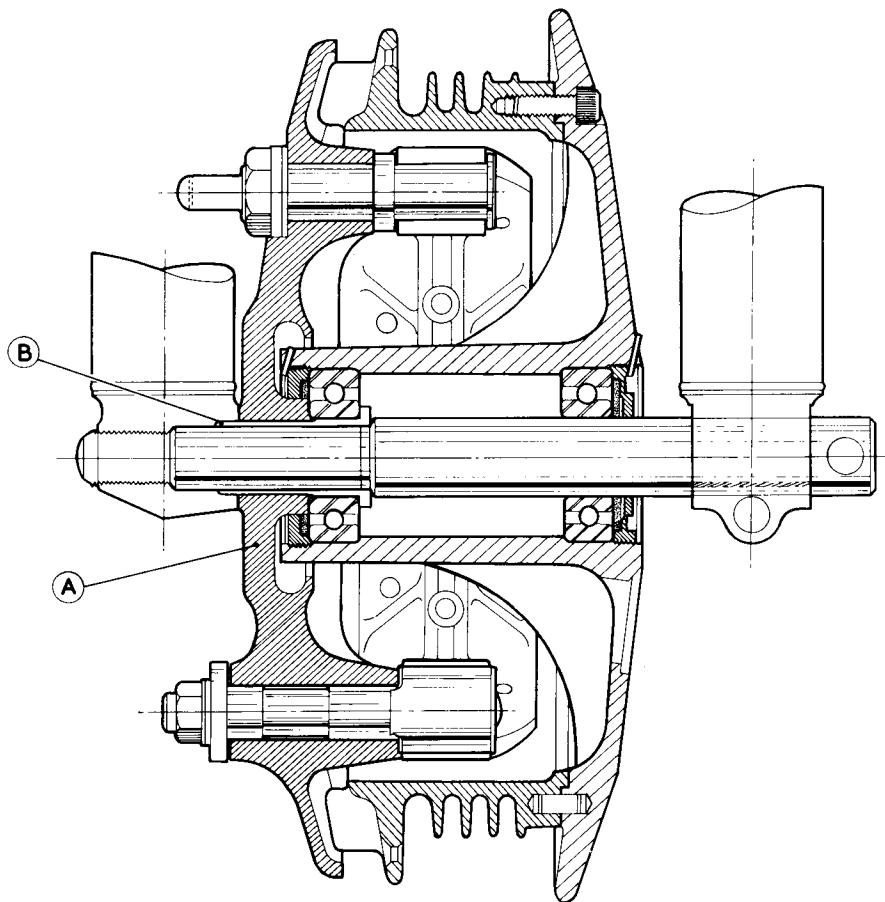

FIG. F.7. *Section of 190 mm. hub.*
The brake plate (A) is a push-fit over the bush (B), Fig. F.7.